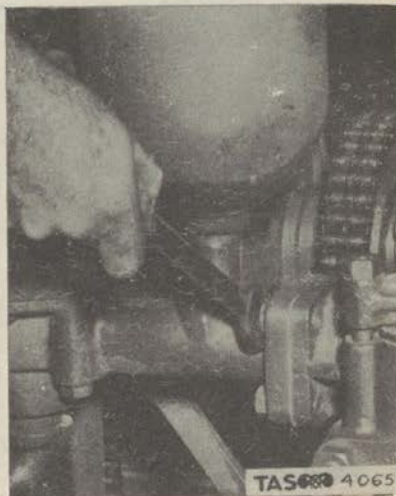

Figure 97. Disconnecting the Relief Valve
(3) Disconnect the relief valve. (Fig. 97)